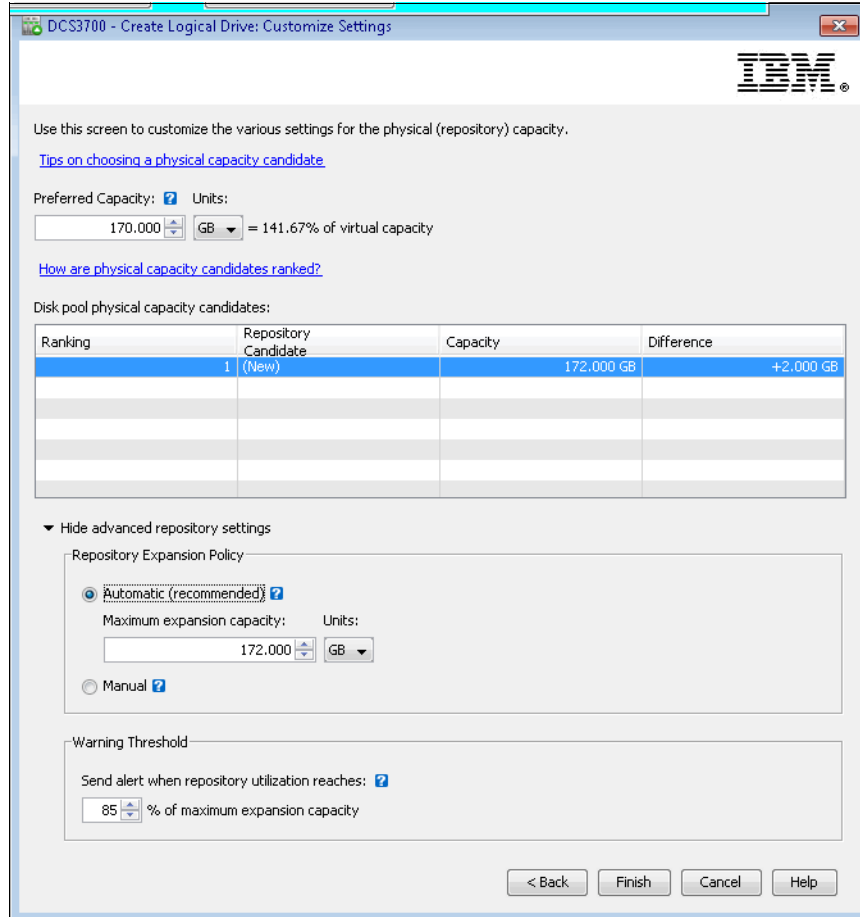

Figure 8-32 Customize capacity settings window
- As shown in Figure 8-32, complete the **Preferred Capacity** field to indicate the initial physical capacity of the logical drive and the **Units** drop-down list to indicate the specific capacity units to use (MB, GB, or TB). The physical capacity is the amount of physical disk space that is reserved for write requests. The physical capacity must be at least 4 GB in size, and can be no larger than 256 GB in size.